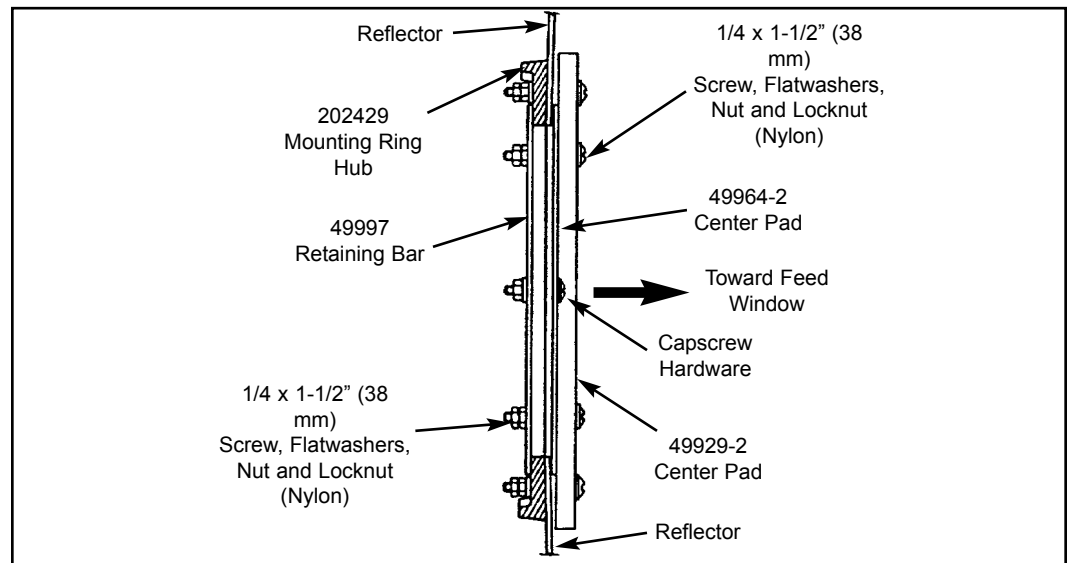

Figure 64
Step 1 Install center plate (P/N 49964-2) over reflector center opening and retaining bar (P/N 49997) behind reflector center opening as shown using supplied capscrew hardware as shown in Figure 64.
Position white surface of center pad toward feed window and attach pad to center plate using supplied $\frac{1}{4}$ x 1- $\frac{1}{2}$ in. nylon screw, flatwashers and nuts. Install flatwashers under both screw head and corresponding nut as shown in Figure 64. Tighten mounting hardware allowing only slight compression (0.060" max.) of center pad material. Use remaining nylon nuts as locknuts and distort excess screw thread to prevent disassembly.